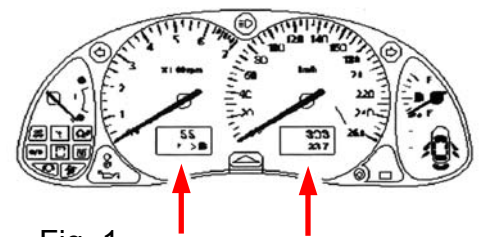

Fig. 1
- o When all symbols are visible in the displays for the tachometer and speedometer, the self-test is activated (see Fig. 1).